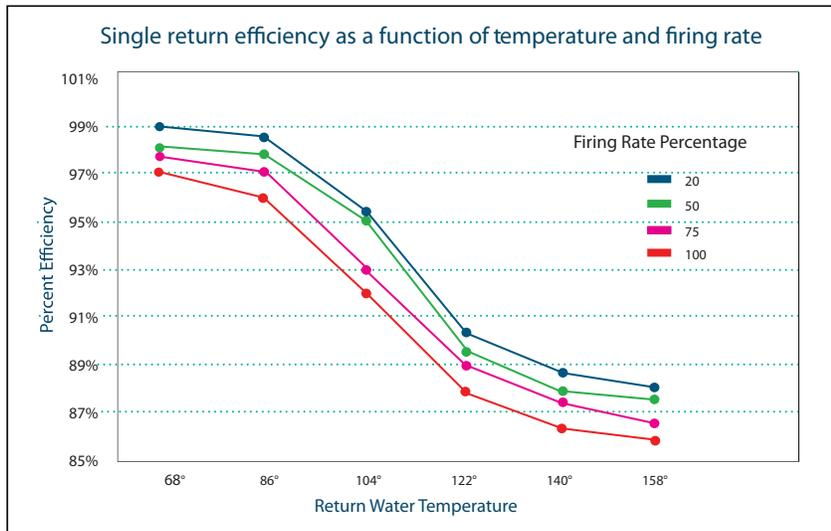

Figure 1 - CFC Efficiencies
2. Start burner. Adjustment of setting value only possible in operation, Fig. 1
Figure 1 shows efficiency data for the ClearFire CFC condensing boiler. Note that the CFC operates most efficiently at low fire (20% firing rate). While different model ClearFire boilers will differ somewhat in their operational characteristics, all share a tendency to reach peak efficiencies at lower firing rates. The Falcon lead lag routine uses a modulation scheme based on a user-selectable common base load rate, which when properly configured will provide optimum load response and efficiency for any Model ClearFire lead lag network.